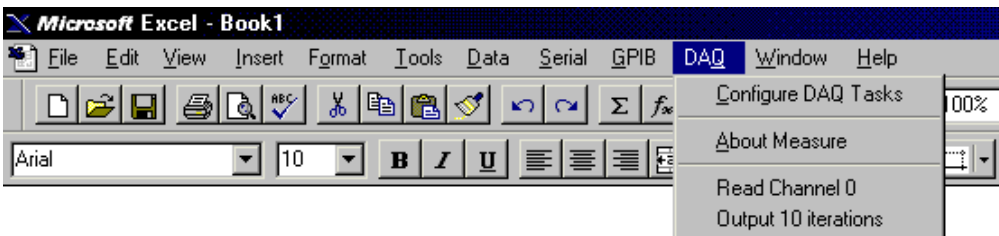

Figure 2-8. The DAQ Menu
5. Pull down the **DAQ** menu. Notice that two new entries now appear in the **DAQ** menu, shown in Figure 2-8. Now you can select these tasks and execute them from the worksheet without going into the Measure dialog boxes.